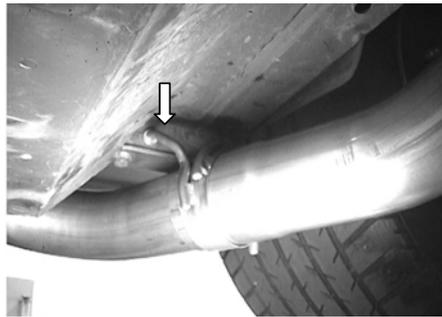

Figure 2
2. Place a clamp with two hangers over the expanded end of each over axle pipe and set them into position installing the hangers into the rubber brackets as shown in figure 2.